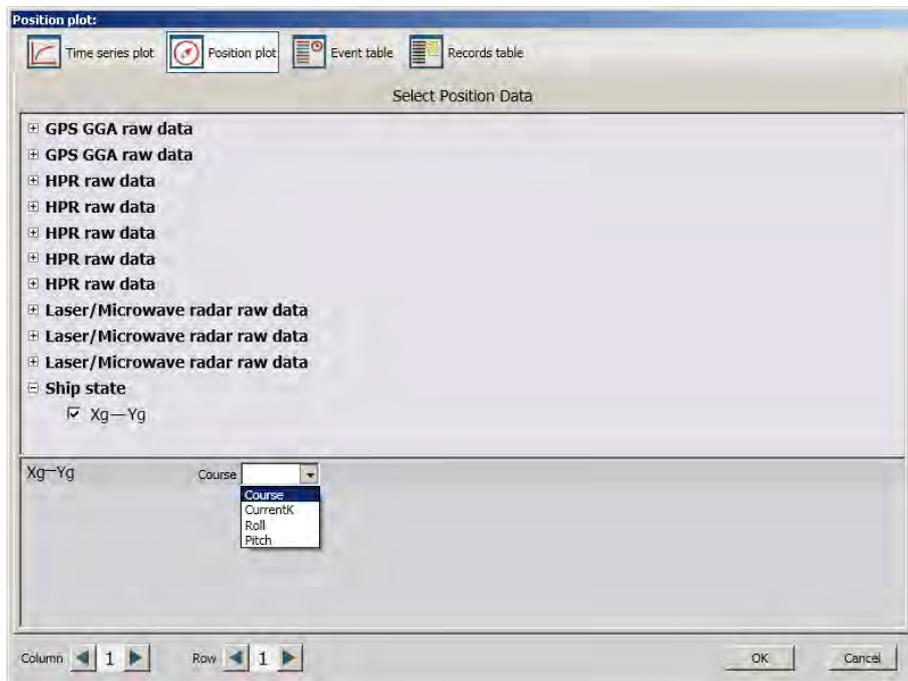

Figure H.25: Position Plot
- 4.2. When you select “Position plot” item a window in which position parameters are selected for the charts will appear (see figure H.25).